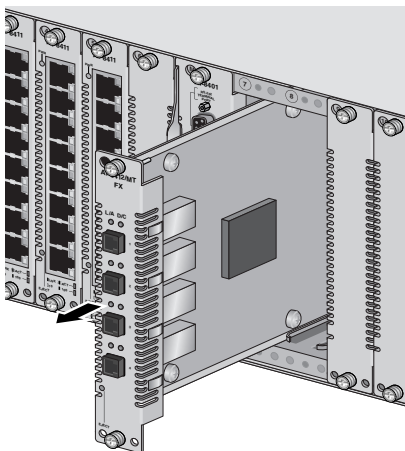

Figure 12. Removing an AT-8412 Line Card
6. Pull the line card forward and remove it from the chassis. See Figure 12 below.